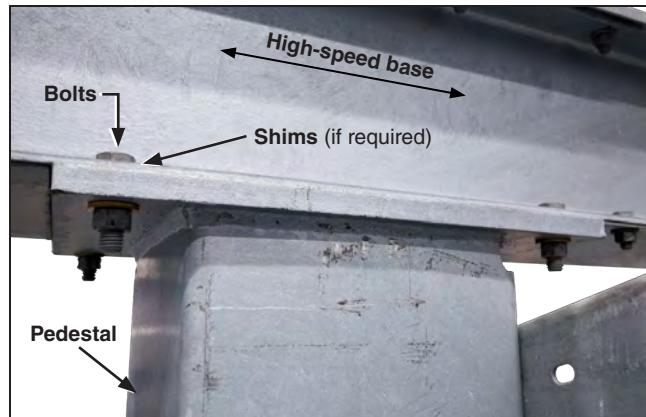

Figure 6. Shimming under the high-speed base for gaps of more than $\frac{1}{8}$ -inch (3 mm). (69-kV shown, 115- and 138-kV are similar.)
STEP 10. Examine the bottom of the high-speed base where it comes in contact with the support arms. If necessary, install shims between the high-speed base and the support arms to compensate for any gaps greater than $\frac{1}{8}$ -inch (3 mm) between the mating surfaces. See Figure 6.